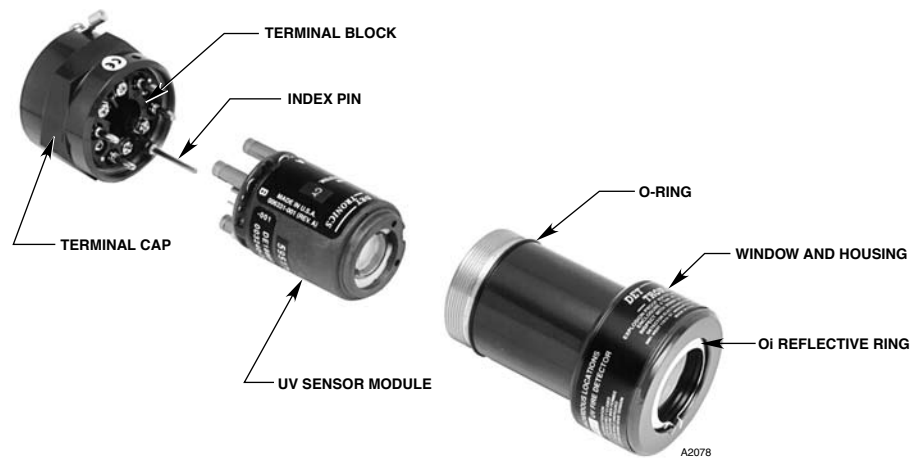
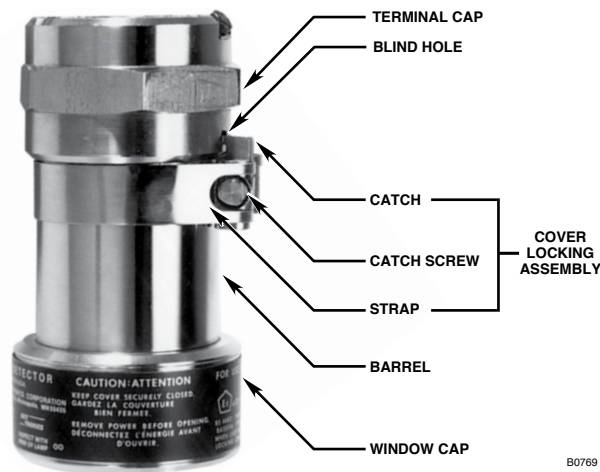

Figure 9—C7050 Detector
Figure 10—Detector with Cover Locking Assembly
2. Disassemble the detector enclosure by turning the housing cover counterclockwise. If the detector is equipped with a cover locking device, loosen the clamp and disengage the “catch” from the terminal cap. See Figure 9 for an illustration of the detector assembly and Figure 10 for the optional cover locking assembly.
6. Re-assemble the detector housing. If the detectors are equipped with cover locking devices, loosen the clamp sufficiently so that the "catch" can be seated in the blind hole provided on the terminal cap. (See Figure 10.) The clamp must then be fastened securely around the detector barrel by tightening with the proper tool.